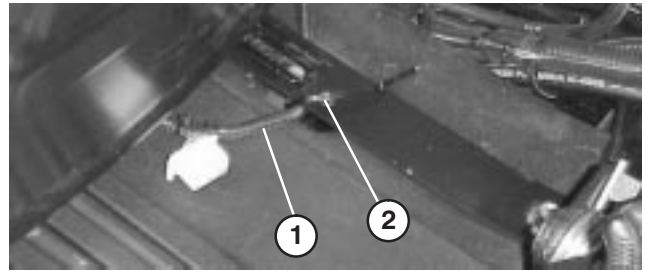

Figure 6
7. On standard seat only, slide seat all the way forward, pull wire to the right so unused connector is positioned as shown in figure 6 and secure seat switch wire to rear most hole in seat strap with a cable tie (cable tie supplied with seat kit).